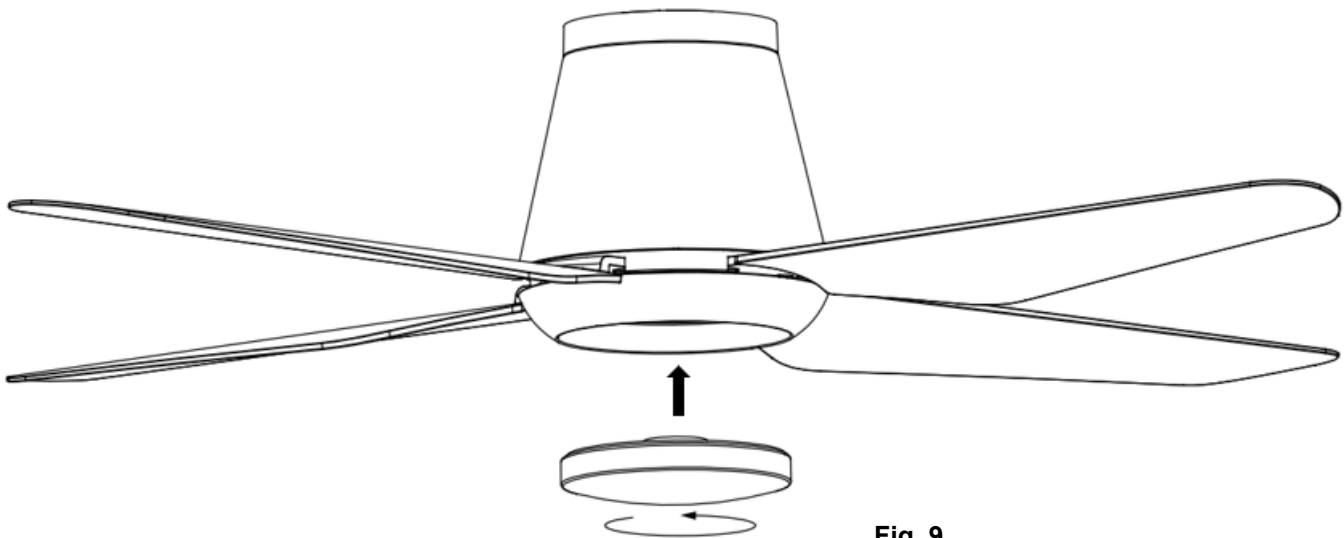

Fig. 9
INSTALLATION OF LAMP (Fig. 9)
- Install the lamp on the fan assembly, then secure it by turning clockwise. (Fig. 9)